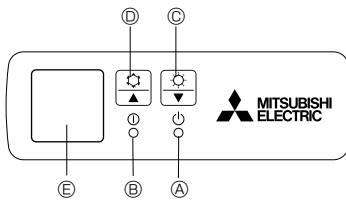

Fig. 9-1
- [Fig. 9-1] (A) DEFROST/STAND BY lamp (Orange)